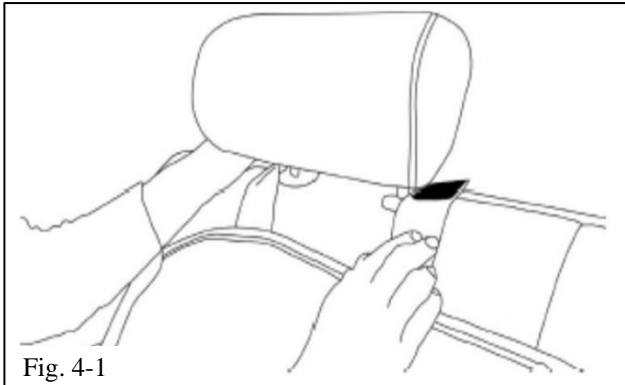

Fig. 4-1
- (a) Attach hook and loop straps around each rear headrest (Fig. 4-1 & 4-2).